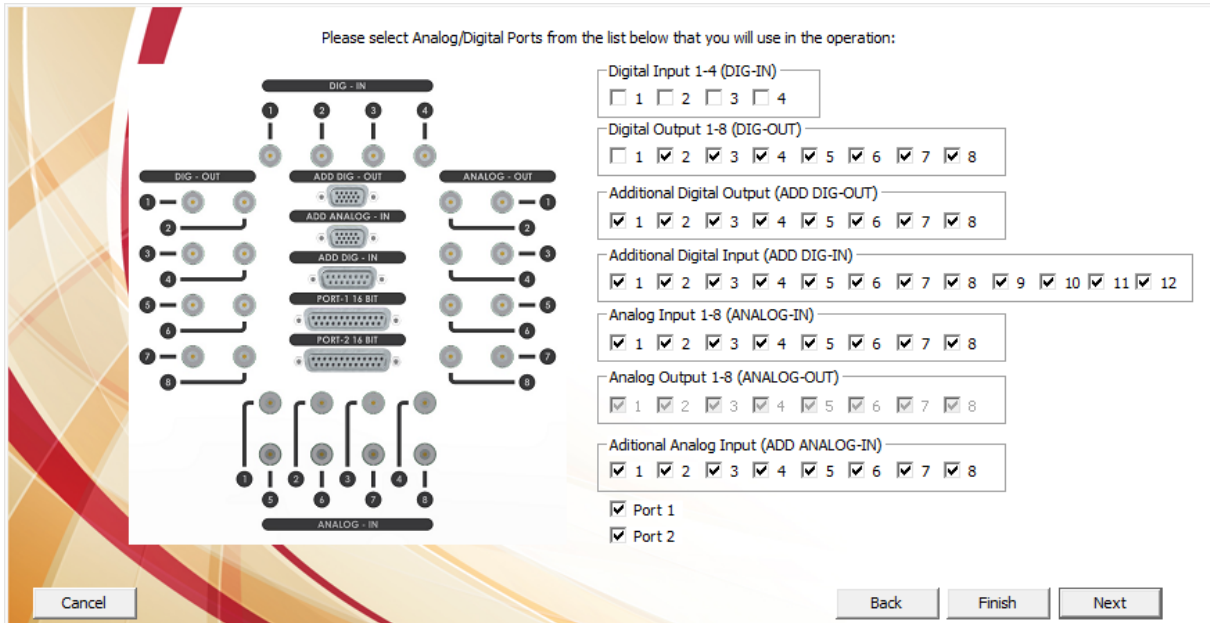

Figure 59: Analog/Digital Ports
1. Select Analog/Digital ports according to the use. (Figure 59)